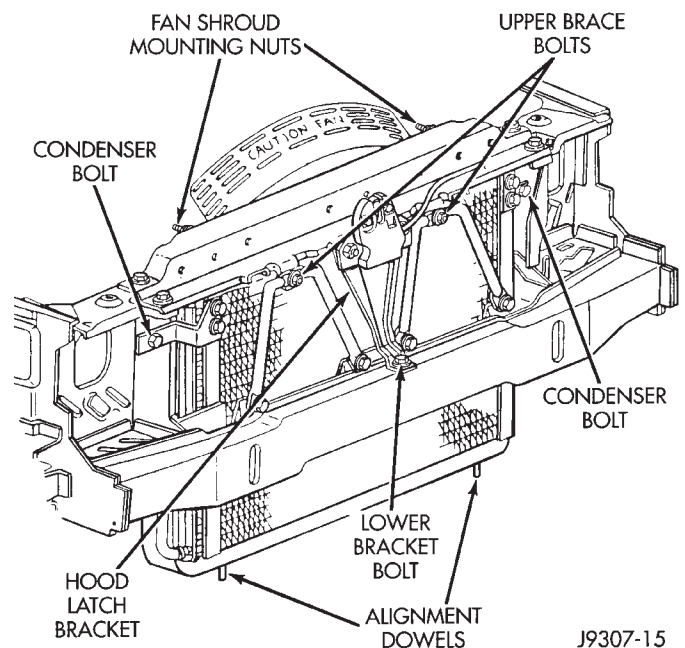
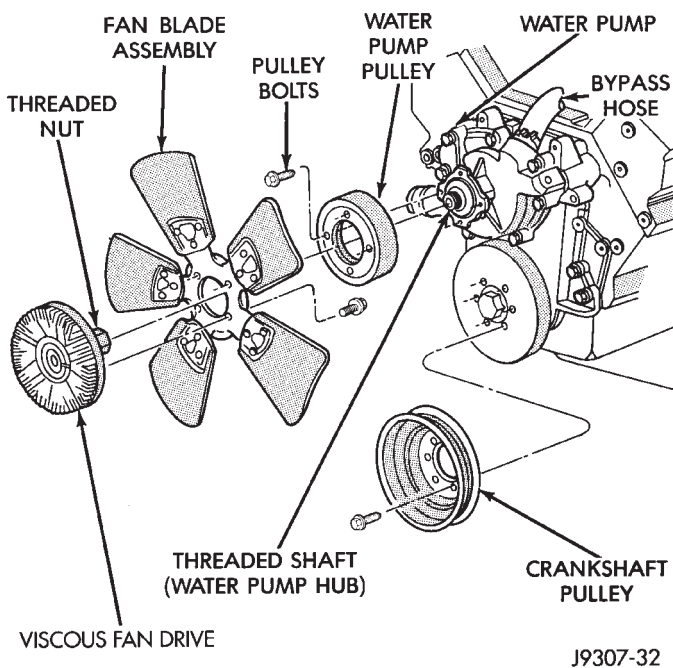

Fig. 67 Fan Shroud Mounting Nuts
Fig. 68 Fan Blade/Viscous Fan Drive—5.2L V-8 Engines
(2) Remove the two fan shroud-to-upper radiator crossmember mounting nuts (Fig. 67).
(3) Remove fan, viscous fan drive and fan shroud as an assembly from the vehicle.
(4) Remove the four fan blade-to-viscous fan drive mounting bolts. Remove viscous fan drive from fan blades.
(1) Disconnect negative battery cable from battery.
(2) The thermal viscous fan drive/fan blade assembly is attached (threaded) to water pump hub shaft (Fig. 68). Remove fan blade/viscous fan drive assembly from water pump by turning mounting nut counterclockwise as viewed from front. Threads on viscous fan drive are **RIGHT HAND**. A Snap-On 36 MM Fan Wrench (number SP346 from Snap-On Cummins Diesel Tool Set number 2017DSP) can be used. Place a bar or screwdriver between water pump pulley bolts to prevent pulley from rotating.
(3) Do not attempt to remove fan/viscous fan drive assembly from vehicle at this time.
(4) Do not unbolt fan blade assembly from viscous fan drive at this time.
(5) Remove two fan shroud-to-upper crossmember nuts (Fig. 67).
(6) Remove fan shroud and fan blade/viscous fan drive assembly as a complete unit from vehicle.
(7) After removing fan blade/viscous fan drive assembly, **do not** place viscous fan drive in horizontal position. If stored horizontally, silicone fluid in the viscous fan drive could drain into its bearing assembly and contaminate lubricant.